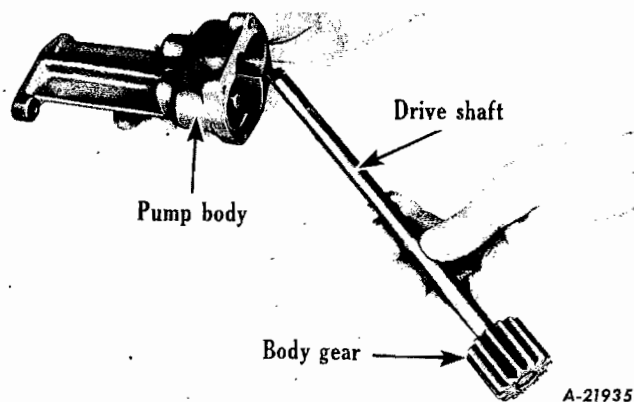

Fig. 49
6. Remove body gear and drive shaft from oil pump body (Fig. 49).